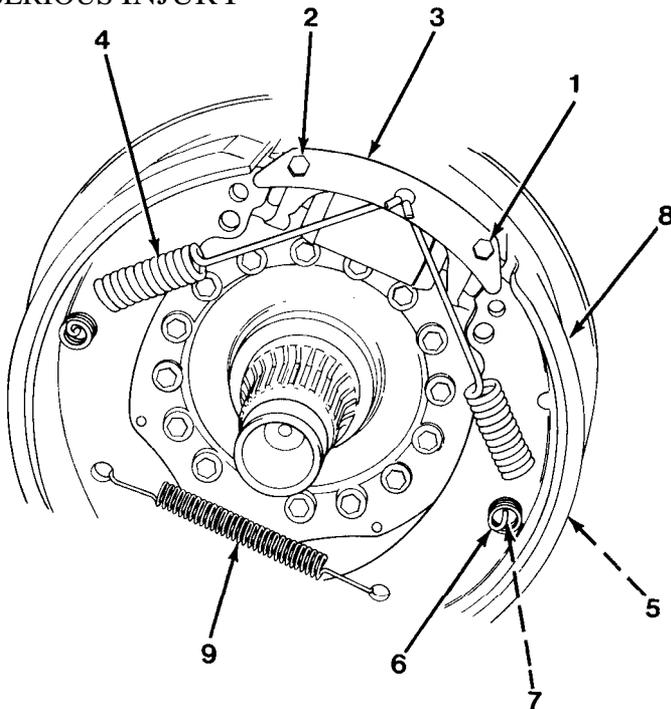
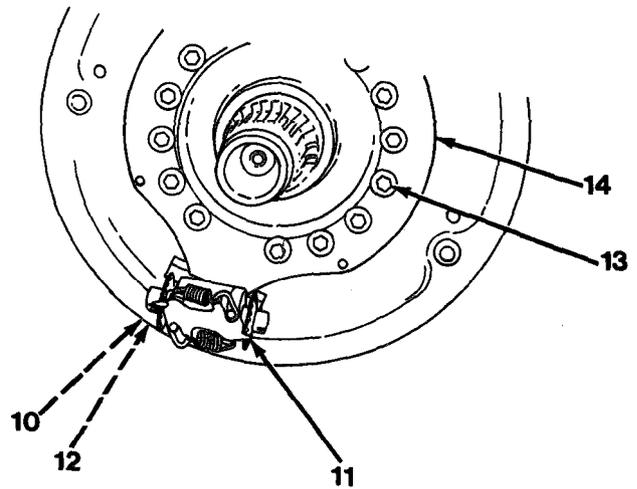
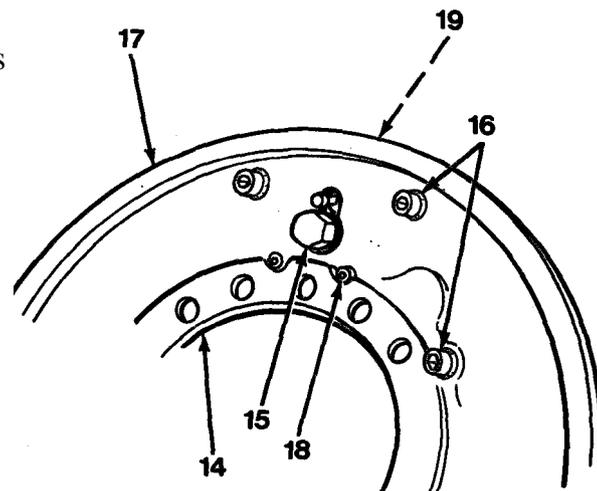

Figure 12-1
Figure 12-2
Figure 12-3
3. Remove bolt (1) from spring retainer plate (3) and relieve tension on springs (4, Figure 12-1).
4. Remove bolt (2), spring retainer plate (3), springs (4), spring retainer (5), spring (6), lockplate (7), brake shoes (8) and spring (9).
5. Unscrew bolt (10) from rear of automatic adjuster (11), and remove automatic adjuster (11, Figure 12-2).
6. Using a 9/16 in. hexdriver, remove 15 bolts (13), brake spider assembly (14), bolt (10) and two washers (12).
7. Remove banjo fitting assembly (15), six bolts and washers (16) and dust shield (17) from brake spider assembly (14, Figure 12-3).
8. Remove two bolts (18) and wheel cylinder (19) from brake spider assembly (14).